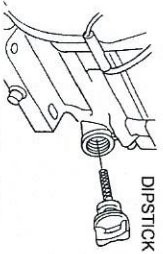

Figure 8. Engine Oil Dipstick Removal
2. Remove the filler dipstick from the engine oil filler hole (Figure 8) and wipe clean.